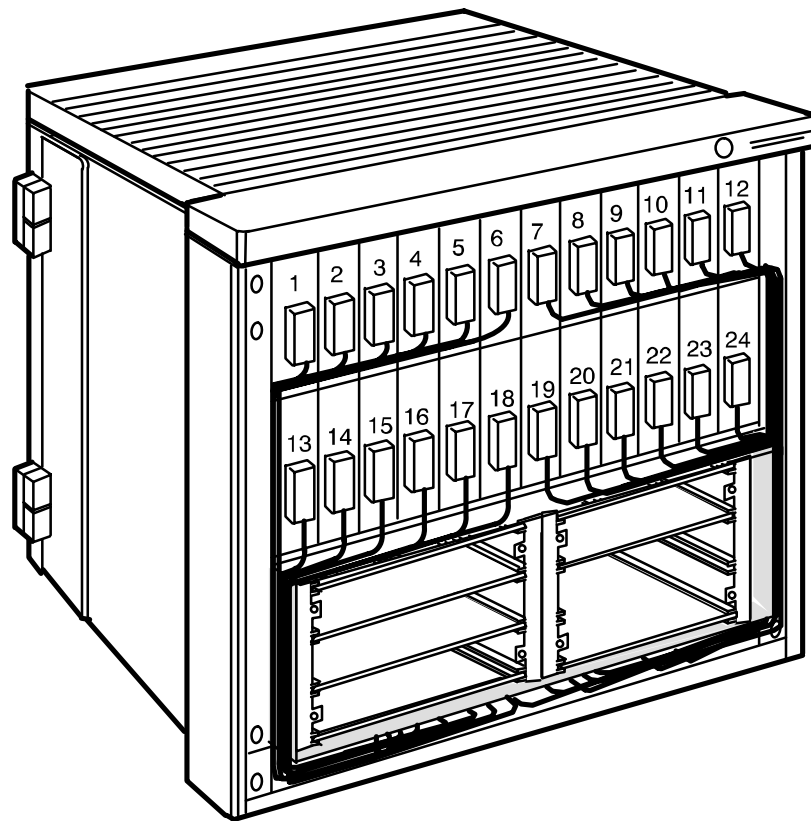
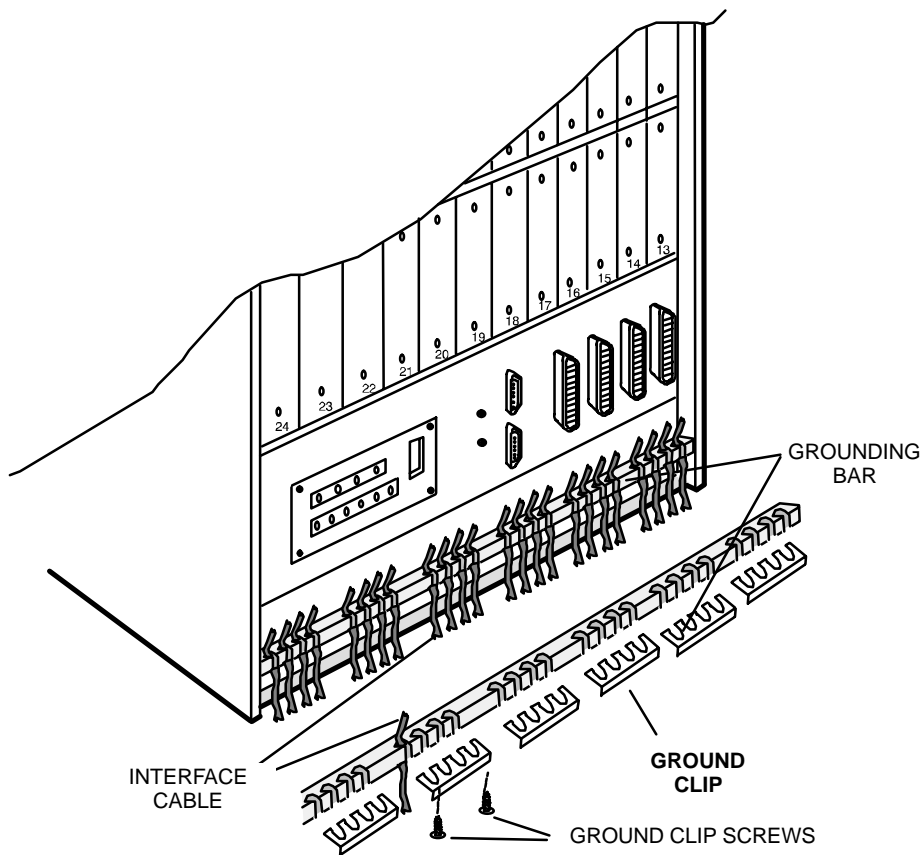

Figure 4. Cabling Arrangement for 360-34 T1 Termination System with 3634-02/04/35 (Front View)
Figure 5. Cabling Ground for 360-34/35/36 with 3634-02/04/35 Interface Cable (Rear View)
When using the Dataports with the Charles Industries 360–34/35/36 channel banks, grounding of the interface cables is required for FCC Part 15 compliance. Figure 4 and Figure 5 show the cabling arrangement for the interface cables. Refer to these drawings when performing the following procedure to ground the interface cables.
1.	Route the interface cables along the sides of the front inner chassis (Figure 4) and then under the inner chassis to the rear of the assembly.
3.	Remove the appropriate ground clip retaining screws and ground clip from the grounding bar (Figure 5). Each ground clip accommodates a set of four cables.
4.	Insert the exposed shield of each interface cable into the grounding bar receptacles as shown in Figure 5.